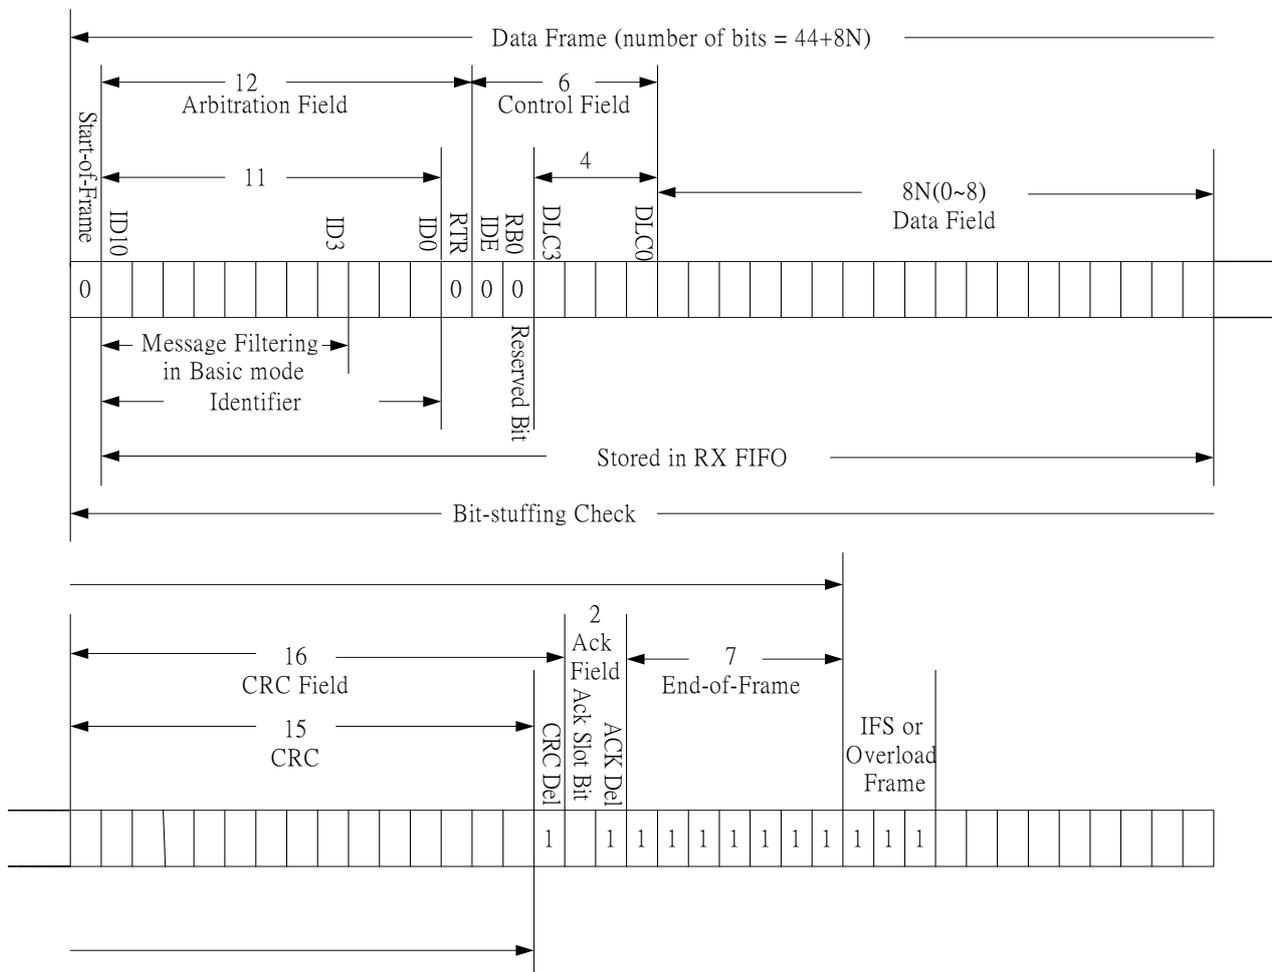
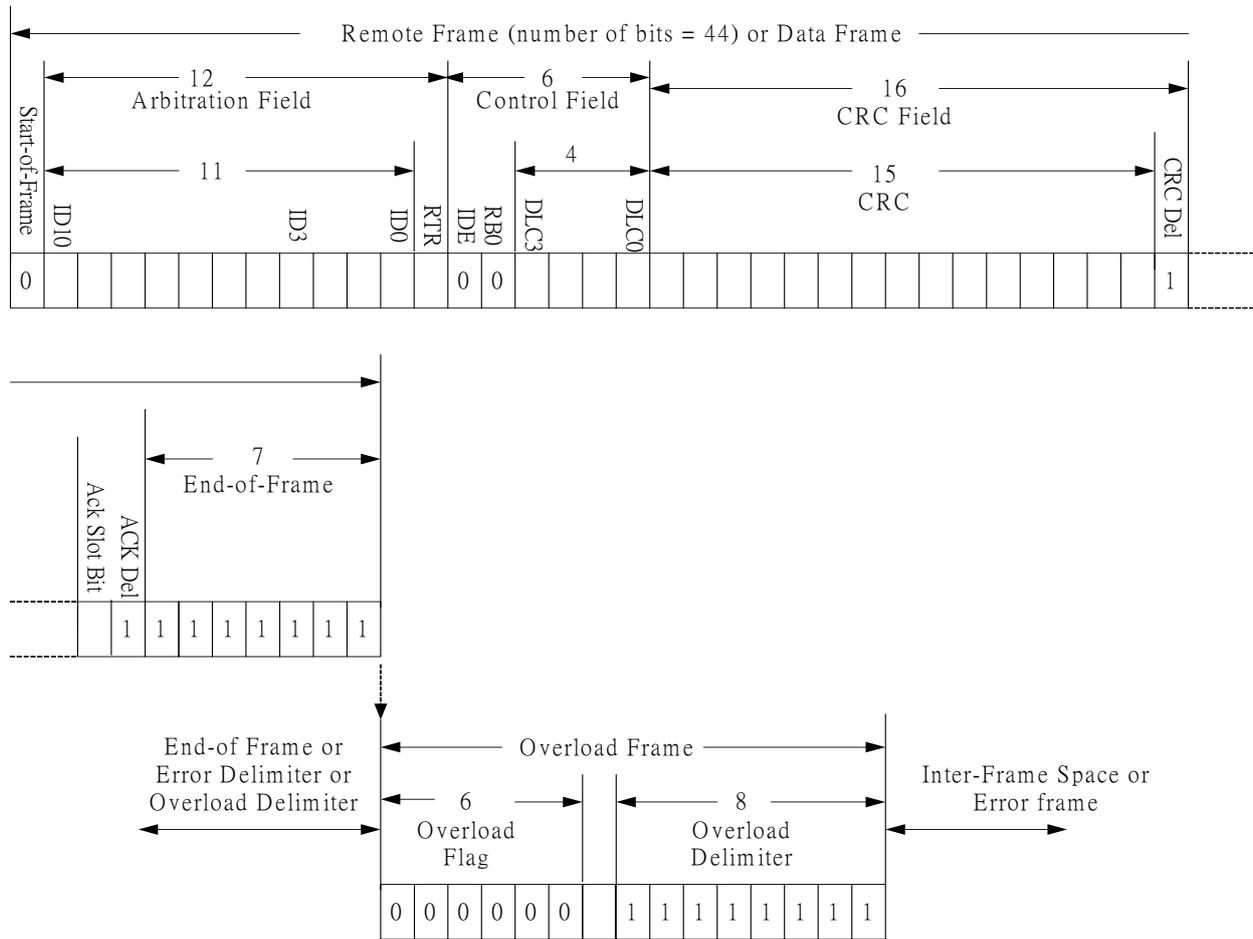

Figure 117: CAN Standard Data Frame (11-bits Identifier field) Format
Figure 121: CAN Overload Frame Format
- Support 4 message types, Data frame, Remote frame, Error frame and Overload frame, as shown in Figure 117 ~ Figure 121. Data frame and Remote frame are processed by software; Error frame and Overload frame are processed by hardware